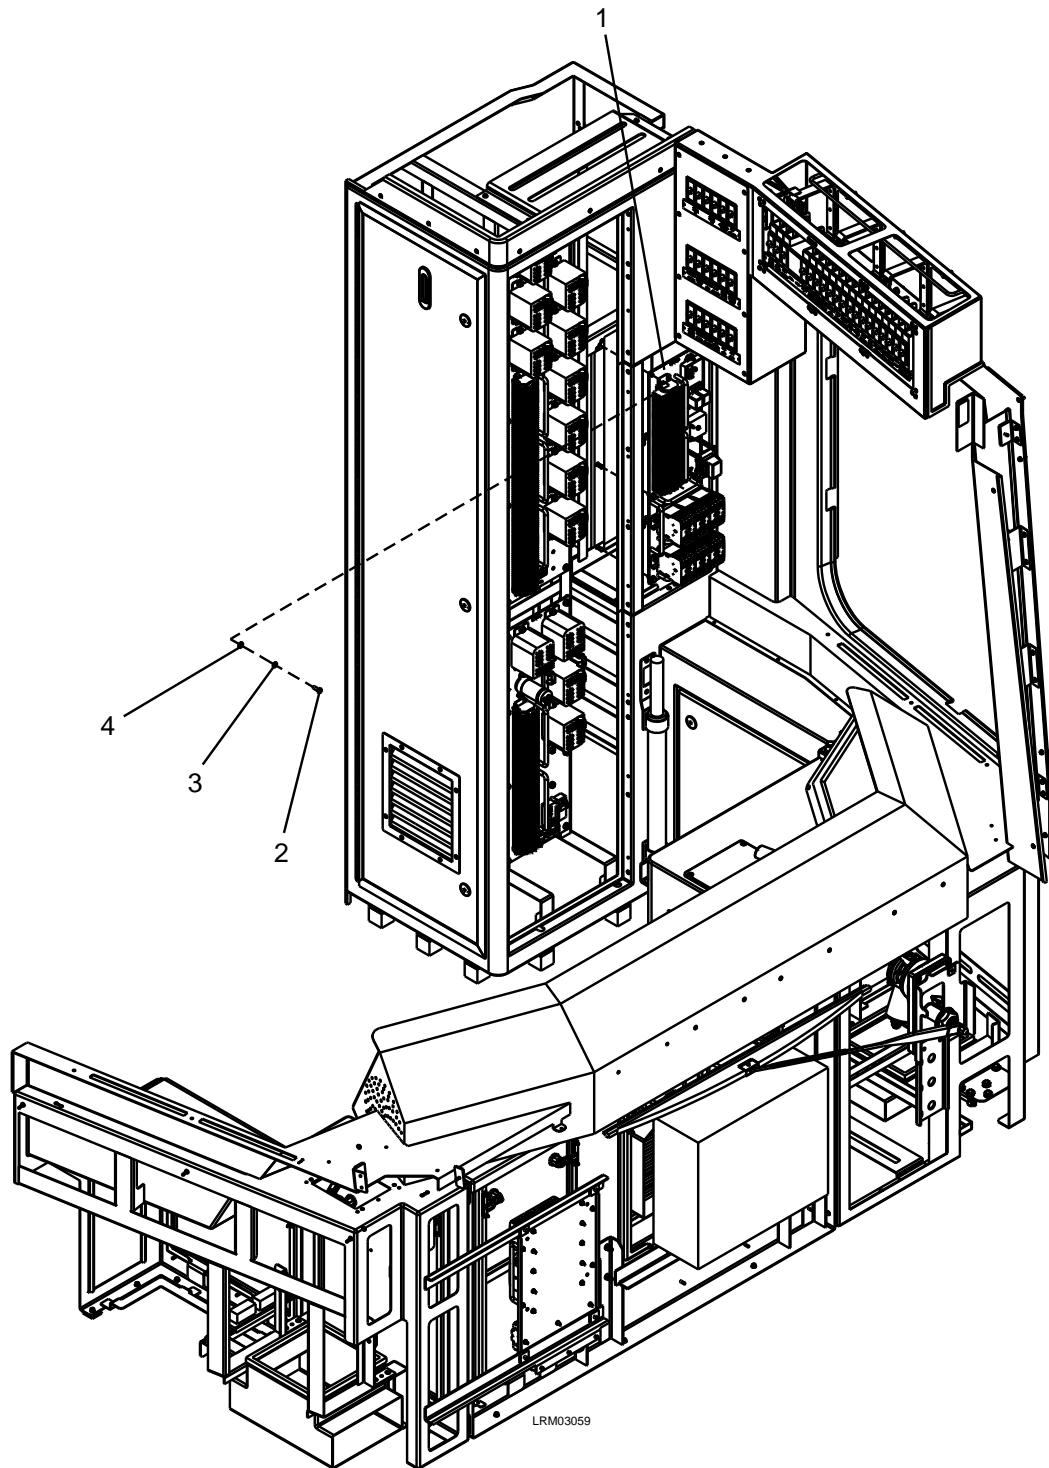

Figure 7-40: CRP5A and CRP5B Panel
2. Disconnect the WAGO terminal electrical connections to the CRP5A / CRP5B Panel (1). See Figure 7-40.
3. Remove the six M6 x 16 bolt (2), M6 lock washers (3), and M6 plain washers (4).
4. Carefully remove the CRP5A / CRP5B Panel (1).